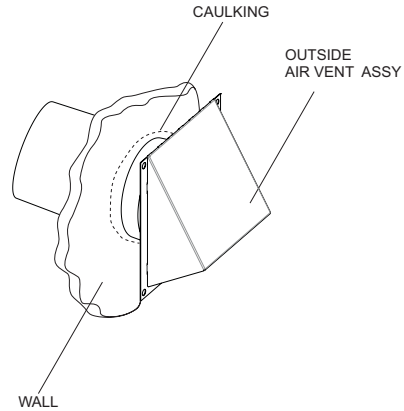

**Figure 17**
5. Push the handle for Open position and pull the handle for the Closed position. See Figure 17.